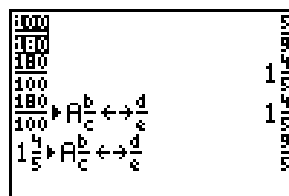

Figure 69
- Looking for 5/9 and 9/5 as the “slope” in the two conversion formulas (Figure 69).